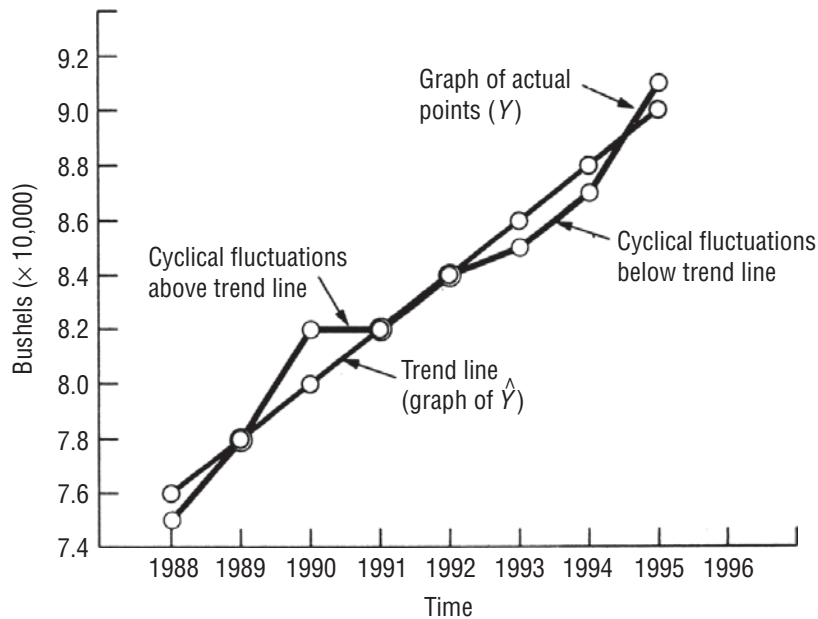

FIGURE 15-5 CYCLICAL FLUCTUATIONS AROUND THE TREND LINE
A farmers' marketing cooperative wants to measure the variations in its members' wheat harvest over an 8-year period. Table 15-6 shows the volume harvested in each of the 8 years. Column Y contains the values of the linear trend for each time period. The trend line has been generated using the methods illustrated in Section 3 of this chapter. Note that when we graph the actual (Y) and the trend (\hat{Y}) values for the 8 years in Figure 15-5, the actual values move above and below the trend line.